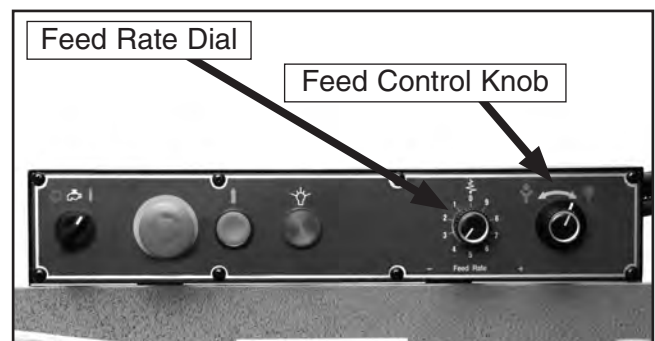

Figure 22. Feed rate controls.
2. Set the "Feed Rate Dial" in **Figure 22** to the desired feed rate—0 (slowest), 9 (fastest).